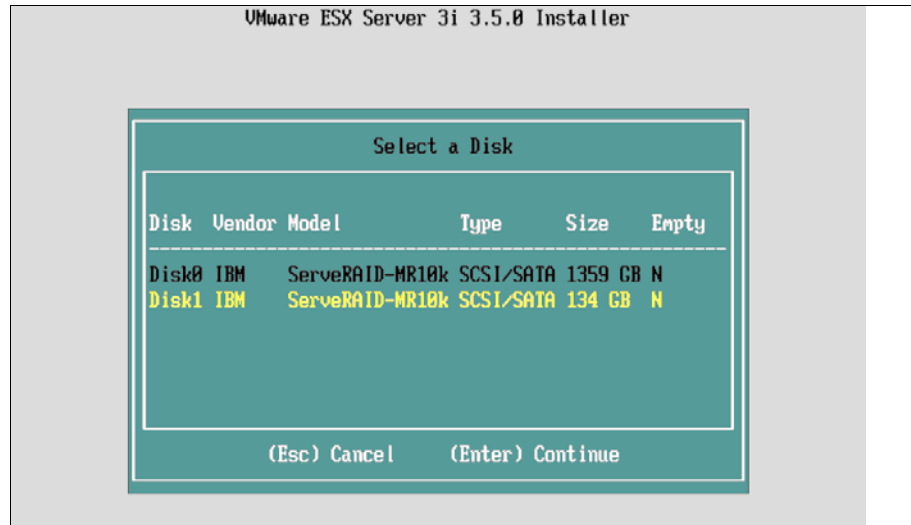

Figure 5-28 Selecting the disk on which to install ESXi
8. Select the appropriate disk on which to install VMware ESXi Installable (see Figure 5-28) and press Enter to continue.